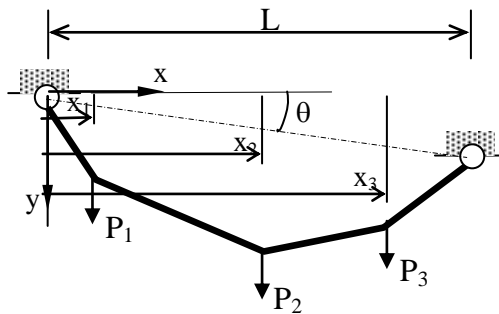

Figure 3
3. (b) Describe the steps involved in the determination of deflected profile for the cable shown in Figure 3 by means of moment analogy method. The sag at $x = x_2$ is specified to be as fL where f is the sag ratio.